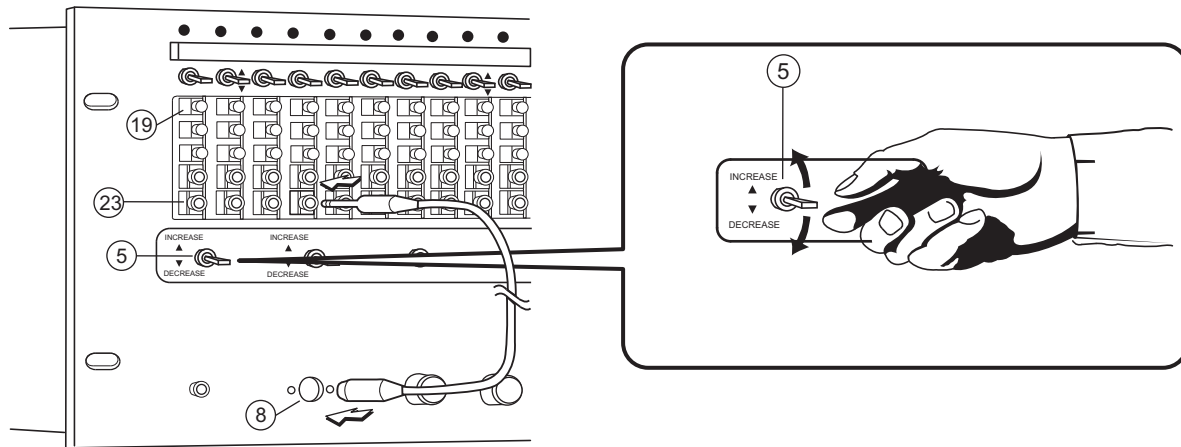

Fig. 17 Setting the alarm time delay
- a. Connect the second test cable with a 3.5mm stereo plug on one end and a 3-pin din plug on the other (supplied) between the **Alarm Delay Output Jack[23]** and the **Alarm Delay Input Jack[8]**. See Fig. 17 above. Plug the 3.5 mm plug to the **Alarm Delay Output Jack[23]** of zone 1 module (first from the left).